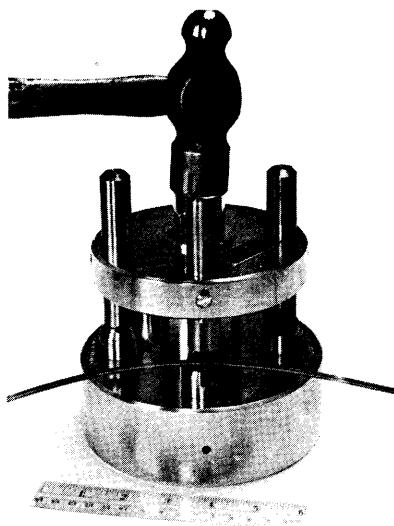

Figure 6b
c. Cut shafting at cut-off point using "Cut Shafting" position on tool and a hammer blow *only heavy enough to effect the cut-off*. See Figure 6b.